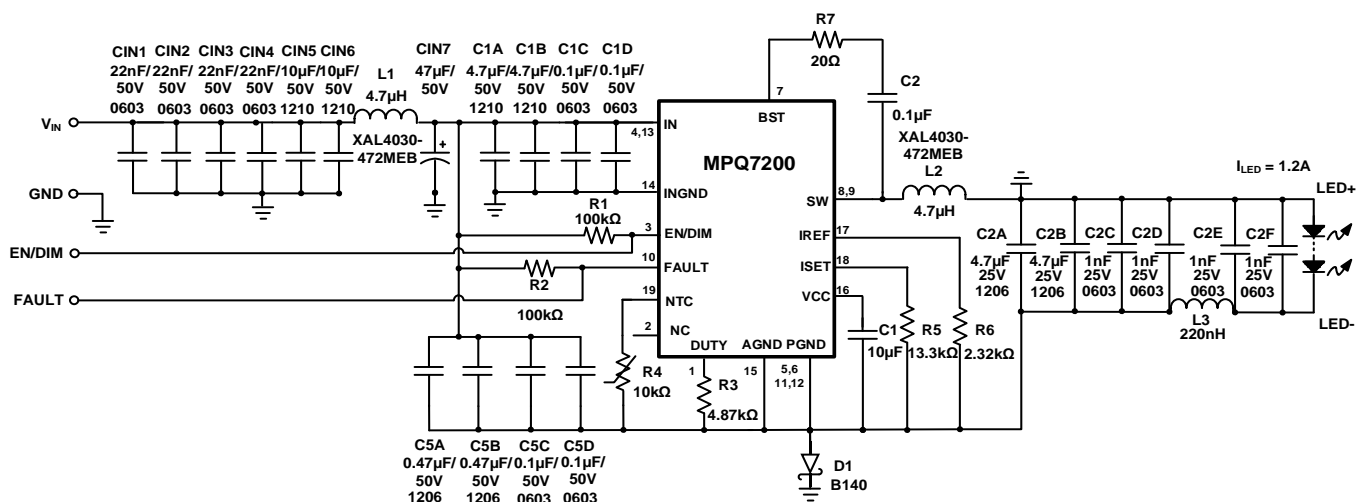

Figure 11: Typical Application Circuit (Buck-Boost Mode, $I_{LED} = 1.2A$, No Two-Step Dimming)
- 15) The recommended layout for buck-boost mode is based on Figure 11 on page 55.